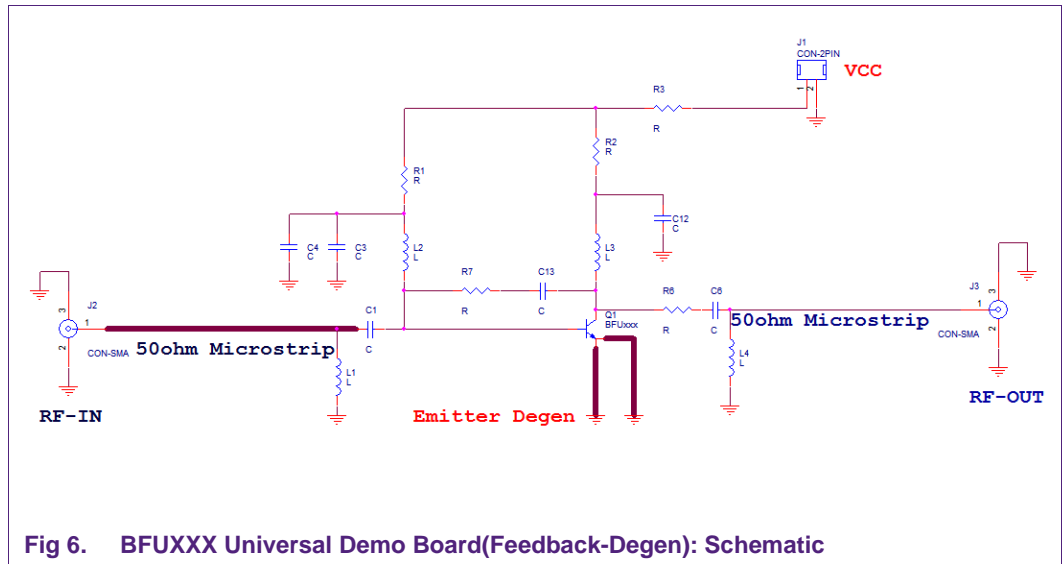
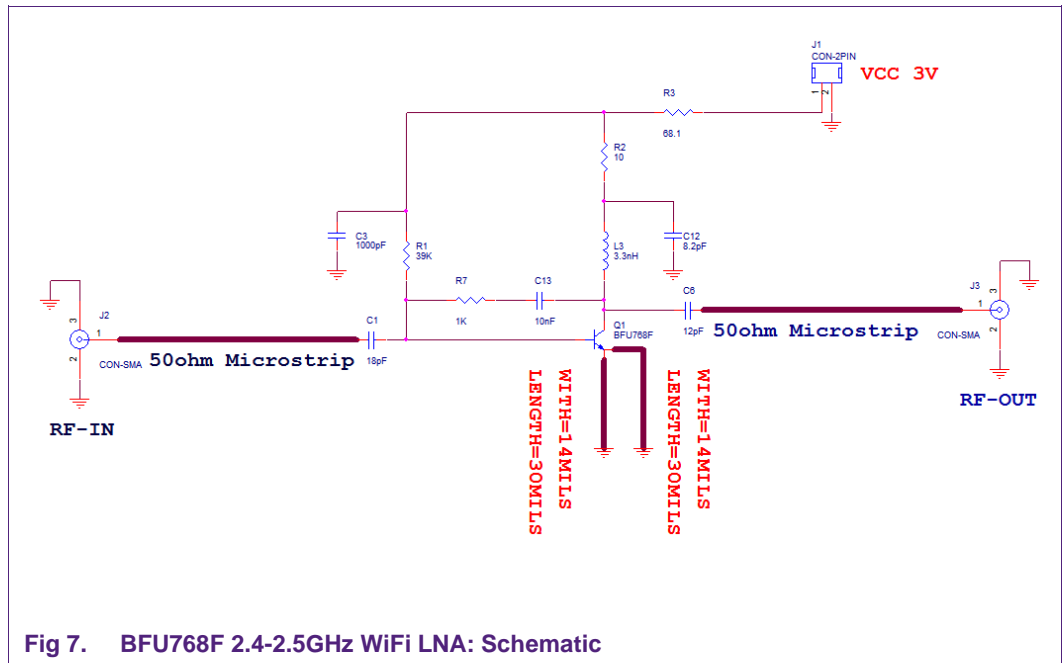

Fig 6. BFUXXX Universal Demo Board(Feedback-Degen): Schematic
Fig 7. BFU768F 2.4-2.5GHz WiFi LNA: Schematic
**Note:** Figure 6 is the schematic for BFUXXX universal demo board, some assembly changes are made to accommodate this simplified low cost design, the revised schematic is shown in figure 7, and the changes are as following: